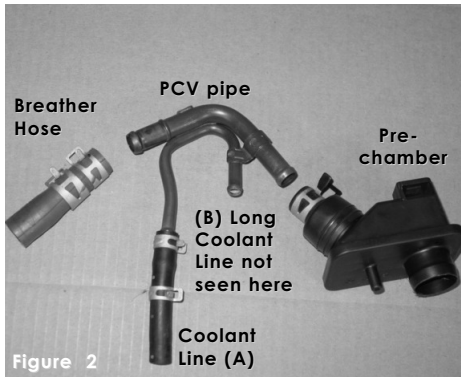

Figure 1
- 15- Align the entire intake for best fit. Allow plenty of clearance through out the length of the intake tract. Once proper clearance has been made continue to tighten all nuts, bolts and clamps. (See figs. 1 and 16)